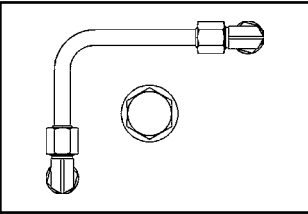

Fig. A26 — Correct
- Keep tube lines away from components that require regular maintenance. (See Figures A26 and A27.)